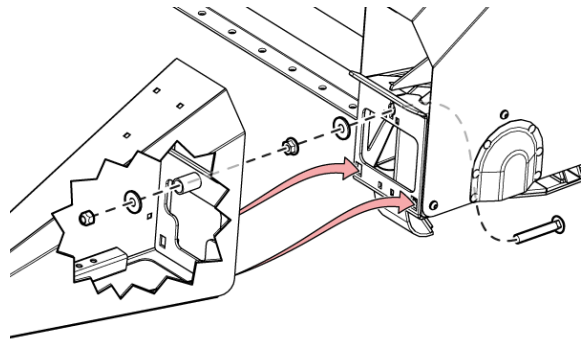

Fig. 43 - Install Crop Divider
Ensure the crop dividers are properly installed & free from material buildup. (See Fig. 43 on page 35)
- ☐ Ensure the crop dividers are properly installed & free from material buildup. (See Fig. 43 on page 35)